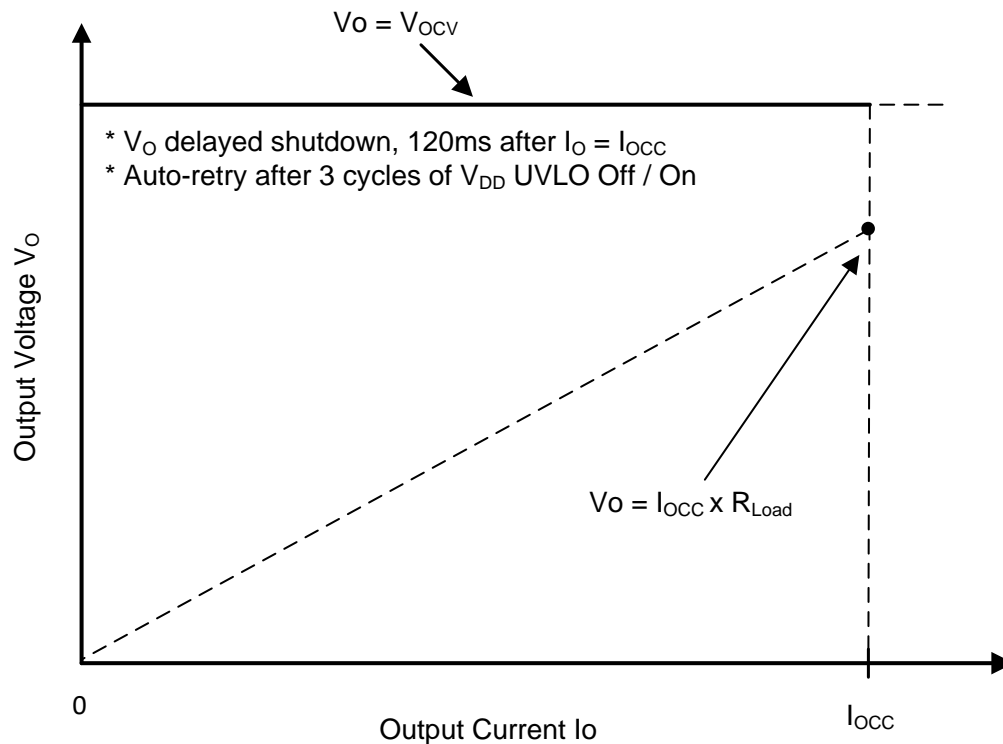
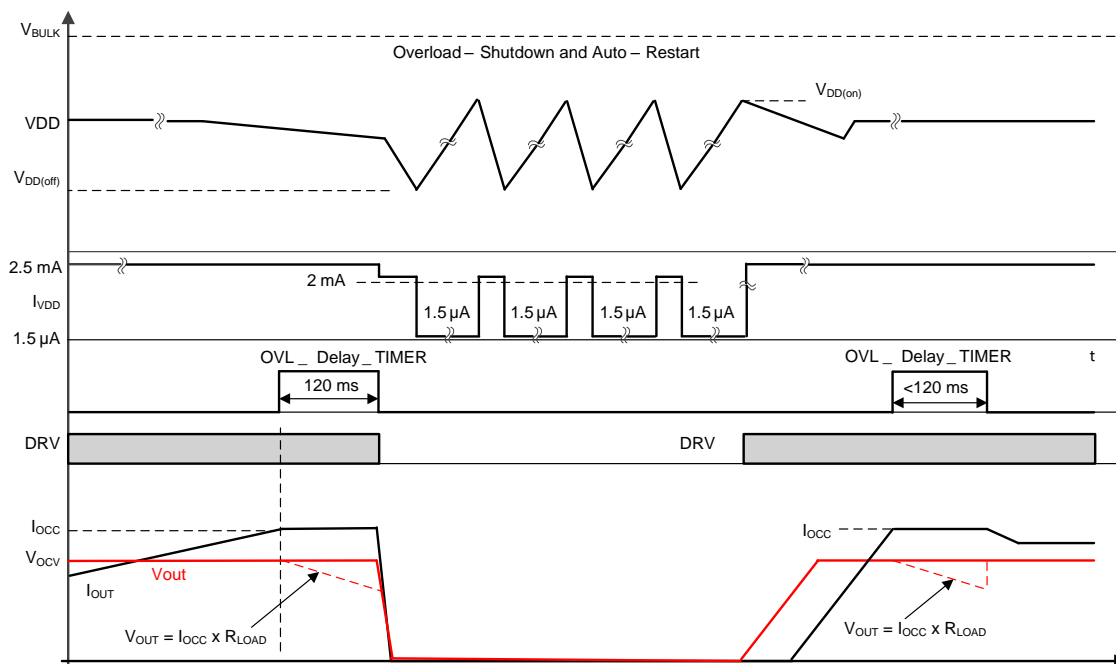

Figure 14. Typical Target Output V-I Characteristics
Figure 15. Output Delayed Shutdown Timing
As shown in Figure 14 below, CV mode operation is from $I_O = 0$ to $< I_{OCC}$; at $I_O = I_{OCC}$, the operation enters constant current limit mode and V_O starts to drop as the load resistance becomes further lower while I_O is maintained at I_{OCC} for a time interval specified by t_{OVL_TIME} typically 120 ms then DRV stops to achieve converter output delayed shutdown. During the 120-ms timing interval, if load I_O reduces to $< I_{OCC}$, the timer will be reset and no shutdown will occur. The V-I curve corresponding to the operation is shown in Figure 14, and the delayed shutdown timing diagram is shown in Figure 15. Note (1) The timer t_{OVL_TIME} is triggered whenever I_O reaches I_{OCC} and reset when I_O drops to $< I_{OCC}$ before 120ms-time-out. (2) during 120-ms time interval, when load resistance becomes so low during constant current interval that causes the device VDD to reach its $V_{VDD(off)}$ and then the shutdown will be through VDD undervoltage lockout instead of through Constant Current Limit and Delayed Shutdown. In such a case, the shutdown can happen before 120ms timer out.